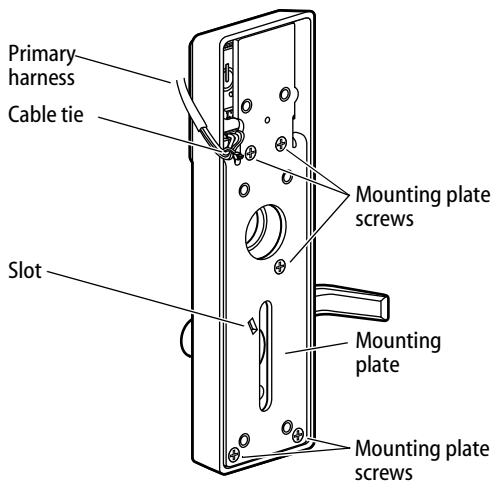

Figure 4 Removing and reinstalling the mounting plate
- 4 Remove the mounting plate (Figure 4):
- 3 With posts on the mounting plate inserted in the lever return springs, slide the mounting plate into the escutcheon (Figure 6). Make sure that the locking plate fits into the slot in the mounting plate. Secure with the five new screws. Route the primary harness against the mounting plate post and secure the harness to the post with a cable tie. See Figure 4.